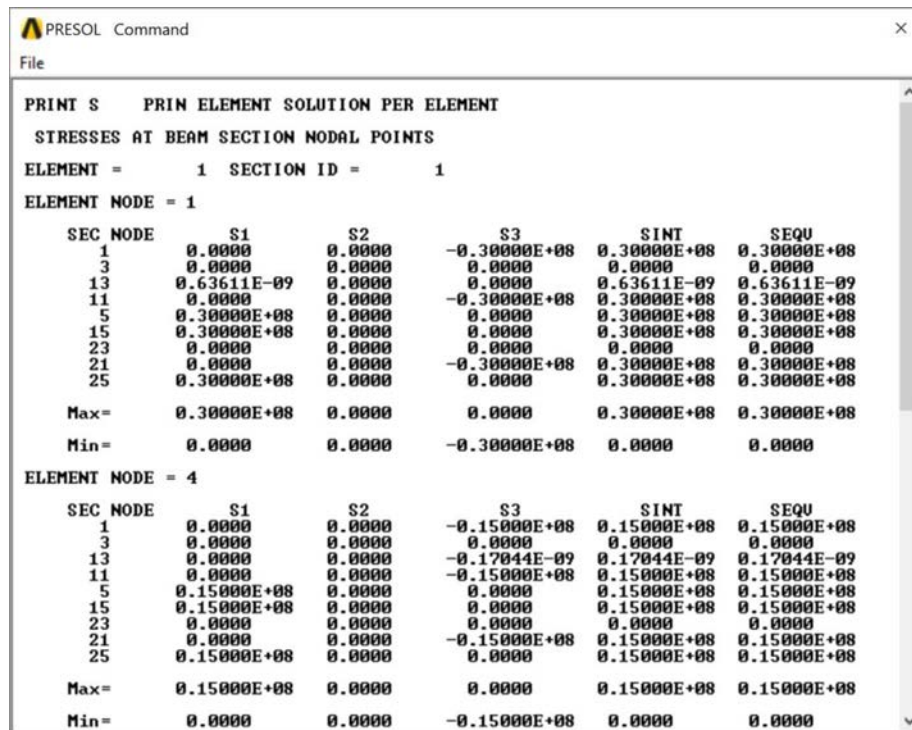

Figure 9.15 Beginning of Element Solution Principle Stresses from Exercise 4-1.
The element results listings for some section-based elements also include the results for the “section nodes.” For example, Figure 9.15 shows the beginning of the element solution principle stresses from exercise 4.1. The results list identifies the element number (1) and the element node numbers (1 and 4) for that element before listing results for each of the section nodes (1, 3, 5, 11, 13, 15, 21, 23, and 25) per node. Note that the section node numbers are the same for every element node. You can find a schematic of the BEAM189 element with the three element nodes in Figure 189.1 of the ANSYS Mechanical APDL Element Library. You can also find schematics for some of the standard library sections for BEAM189 in Figure 189.3 of the Element Library (Figure 9.16, left). Unfortunately, these schematics do not show the section node numbering. The best way to understand these results is to plot the section using the GUI path: **Main Menu > Preprocessor > Sections > Beam > Plot Section** or using the **SECPLOT** command (Figure 9.16, right).